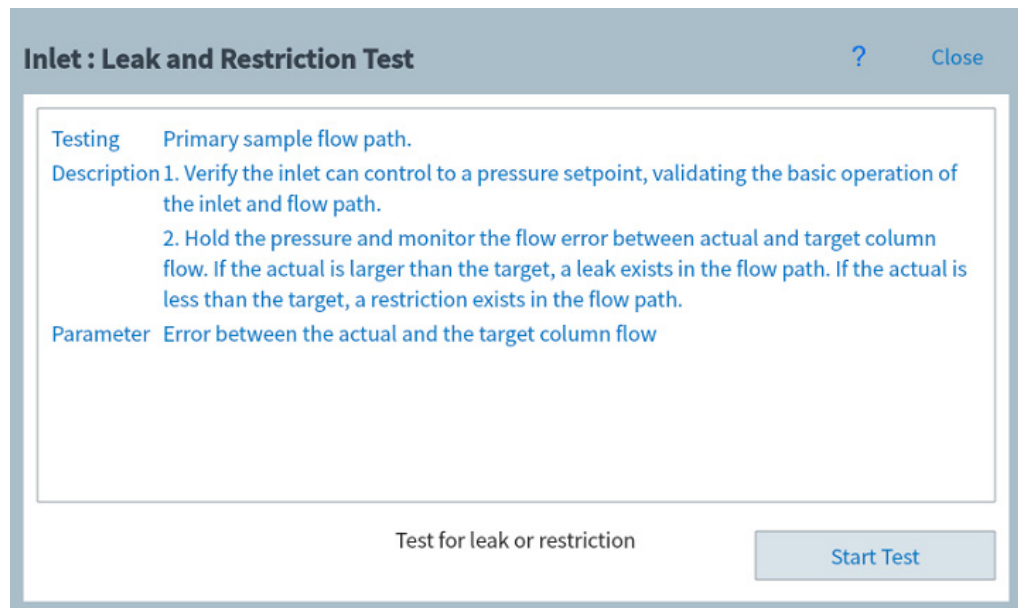

Figure 29 Leak & Restriction Test page
- 2 Press the desired test. The corresponding test page appears. The test page includes a test description and an indication of the parameter being tested. See Figure 29.